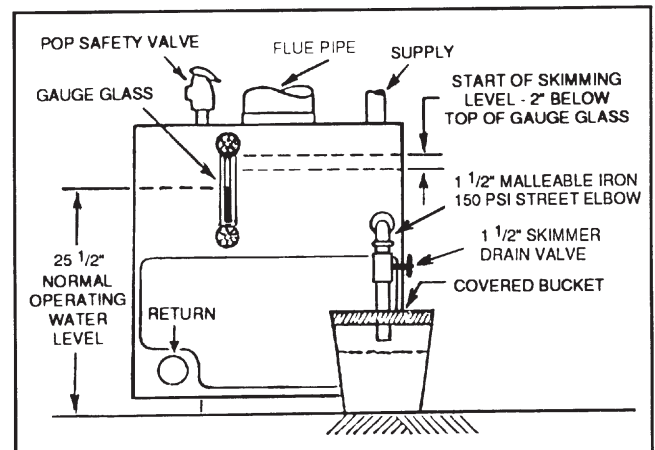

Figure 9.
- B. Turn off electrical power supply to boiler. Allow boiler to cool down and steam pressure to reduce to zero before removing skimmer tapping plug. Check for steam pressure by testing the pop safety valve. Keep your hands and all parts of your body away from the discharge end of the safety valve. Drain boiler down one to two inches below skimmer tapping. The water might be hot. Remove skimmer plug slowly and carefully install a 150 psi malleable iron 1-1/2" NPT street elbow, a 1-1/2" NPT skimmer valve and length of pipe and place a bucket underneath the open end of the pipe. Cover bucket with a piece of cloth. (See figure 9)
- E. Repeat (D) above until all film is skimmed off and the water settles to a normal movement. Add make up fresh water to the boiler as described in (D) above, during the blow-off operation, to maintain the proper skimming water level in the vessel. Empty bucket frequently in order to see the difference in water cleanliness.
- F. When surging has stopped and water is clean, and no film can be seen floating in the bucket, shut off boiler, drain down to level of skimmer tapping, remove valve, plug skimmer tapping and refill the boiler to 24-1/2" water level. After 15 minute operation, readjust level to normal operating level of 25-1/2" from bottom of boiler (see figure 9). Check the pop safety valve for proper operation. Check the low water cut-off operation, see below.